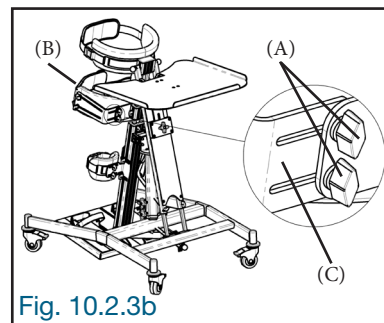

Fig. 10.2.3b
Slightly loosen the locking knobs (A) at the back of the hip pad block (B). Slide and adjust the lateral pads (C) to the user's hips. Once adjusted, firmly tighten the locking knobs (A) (Fig. 10.2.3b).